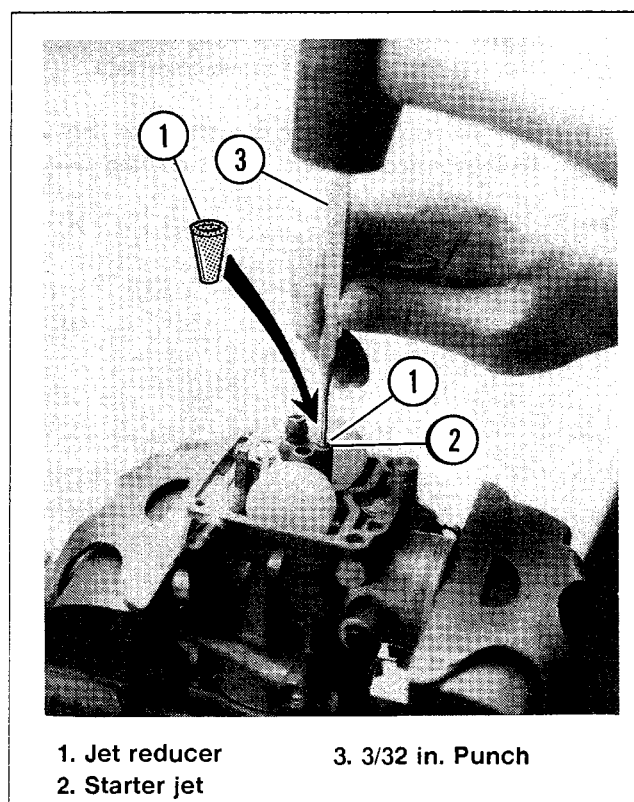

Figure 6. Installing Jet reducer
3. See Figure 6. Place jet reducer (1), tapered end down, into center hole in starter jet (2).